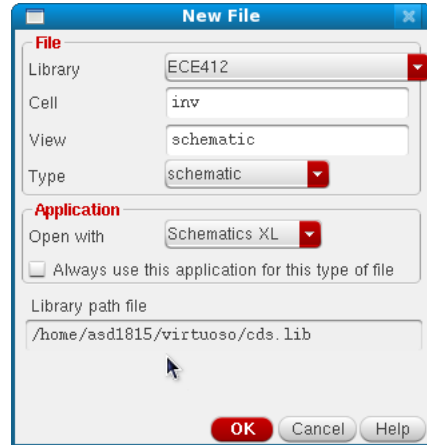

Figure 4: Creating a new Cell View
- A Pop-up window appears titled “New File” as shown in figure 4. In the “Cell” textbox type `inv`.